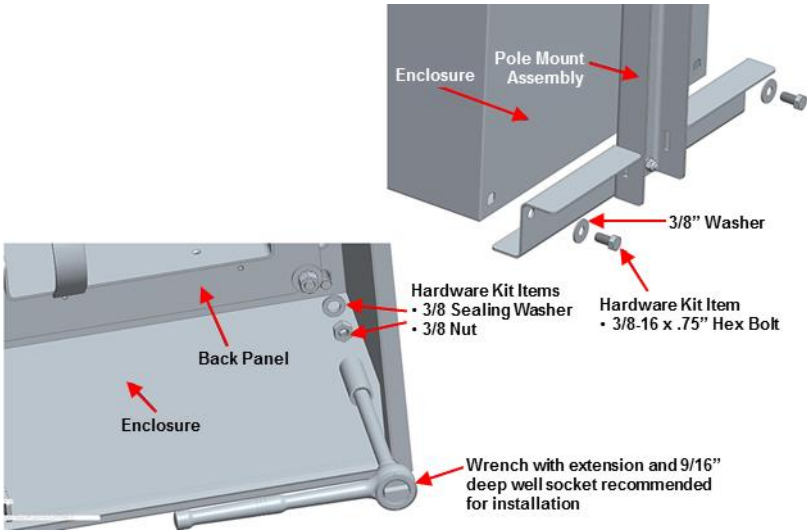

Figure 26: Attach Pole Mount Accessory to Enclosure
2. Attach the pole mount accessory to 4 locations on the environmental enclosure using the provided 3/8" screws, washers and nuts as shown in Figure 26.